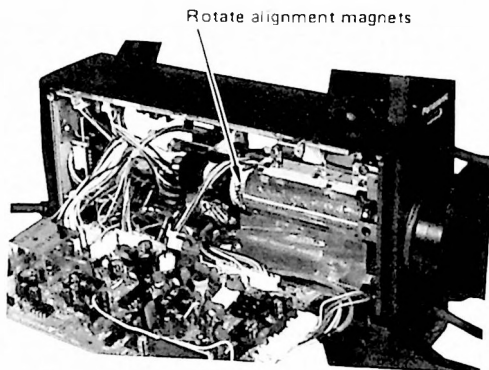
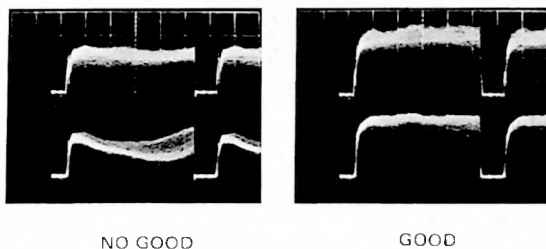

Fig. 4-4-4
Fig. 4-4-5
- Then while observing the color monitor, rotate the alignment magnets (see Fig. 4-4-4) for minimum green tint in the center and maximum magenta (red) throughout the picture area. At this time, the waveform peaks of R and B signals are same in phase and maximum in amplitude. (Fig. 4-4-5)